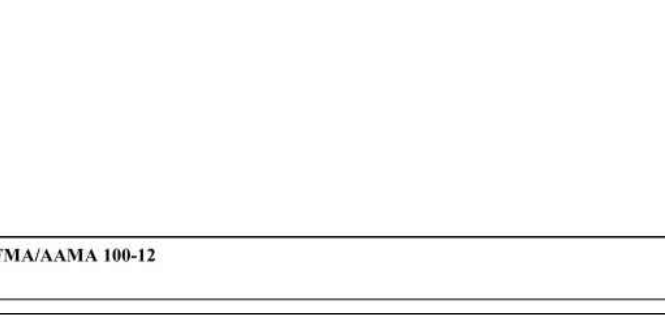

FIGURE 27
7.7 At the interior, using a sealant recommended in Section 5.4 and appropriate bond breakers or backer rod, apply a bead of sealant (see Figures 25 and 26), or low expansion aerosol foam sealant conforming to Section 5.4.4 (see Figure 27), or other window manufacturer approved material between the window and the rough opening on all sides to form a continuous air seal.